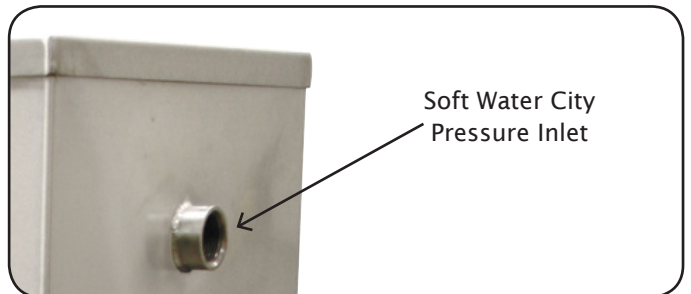

figure 2
1. Run City Pressure line to 3/4" inlet on Tank Assembly with the hose and fittings provided. **(Fig. 2)**